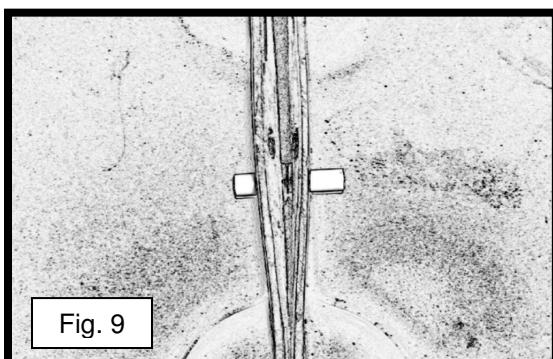

Fig. 9
- 8) After the tube has moved through both grommets, make sure that the tube is centered approximately between the two accumulation centers (see fig. 9).